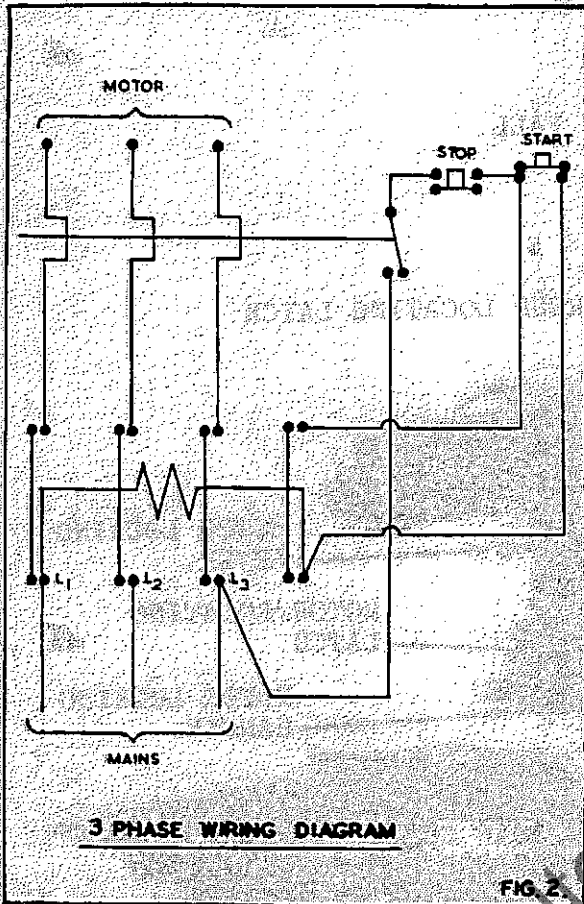

FIG. 2.
4. Connect the line leads to the appropriate terminals. See Fig. 2 for 3 phase supply.